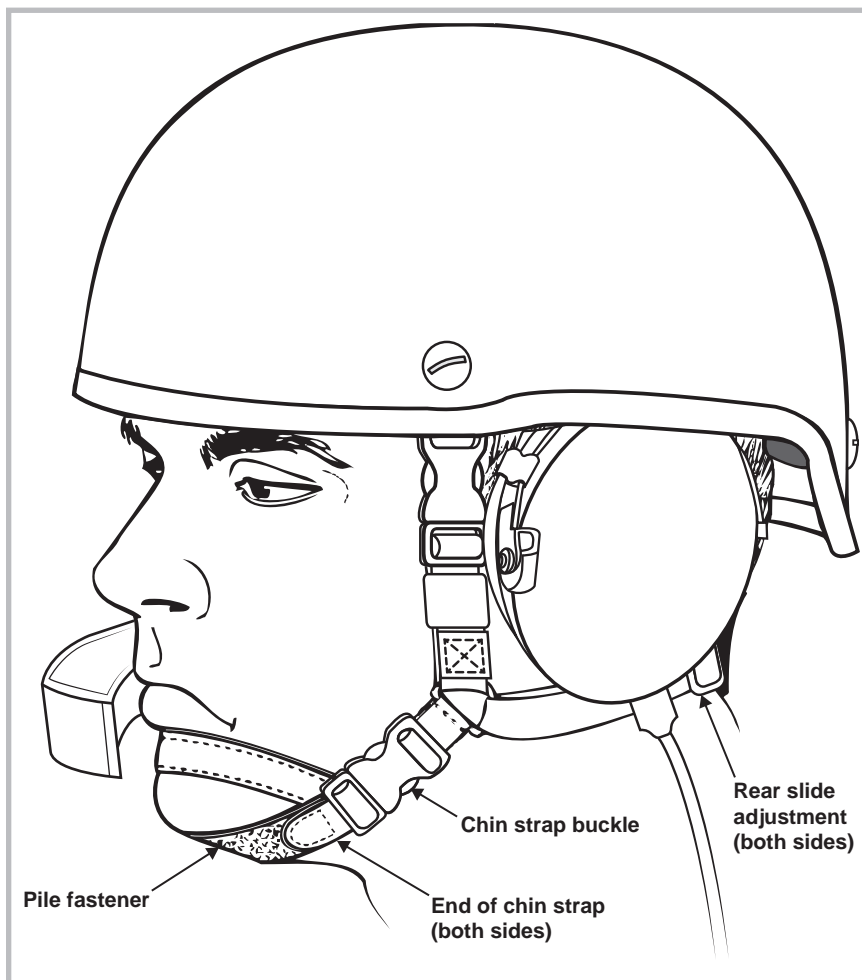

Figure 7. Chin Strap and Slide Adjustment
5. Referring to **Figure 7**, do the following: